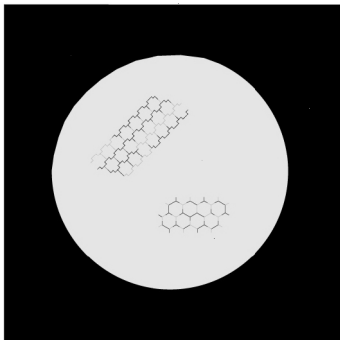

Figure 2-7. Chicken Wire.
(5) Chicken Wire. An irregular pattern of dark thin lines in the field-of-view either throughout the image or in parts of the image area (see Figure 2-7). Under the worst case condition, these lines will form hexagonal or square-wave shaped lines. **No action is required if this condition is present unless it interferes with the operator's ability to view the image or to perform the mission.**